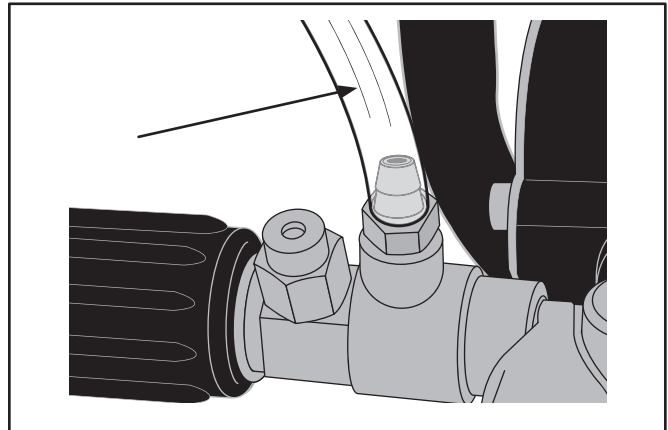

Figure 4-4
1. Ensure detergent siphon hose is attached to barbed fitting location near high pressure hose connection of pump as shown. See Figure 4-4.